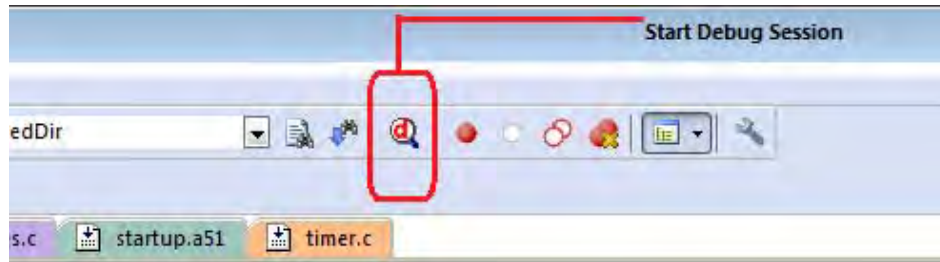

Figure 28. Beginning a Debug Session
13. Start your debugging session by clicking the **Start/Stop Debug Session** icon, as indicated in Figure 28. A default Windows configuration of the debug session is shown in Figure 29.